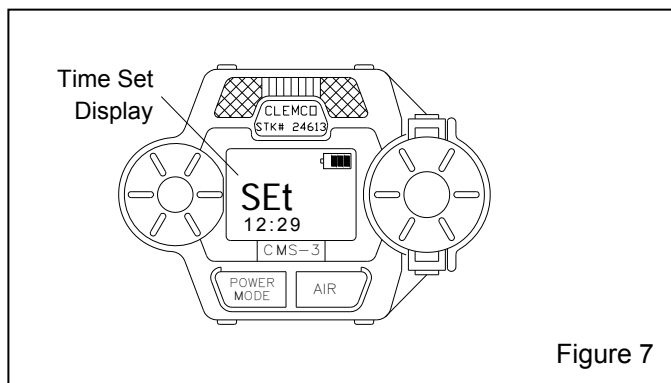

Figure 7
**3.7.2** Press and hold the Air button, then press and hold the POWER/MODE button to put the monitor into Time Adjustment Mode. Release the buttons when the word "SEt" appears on the LCD as noted in Figure 7. Below "SEt", the time will be displayed and the hour in the time will be flashing.